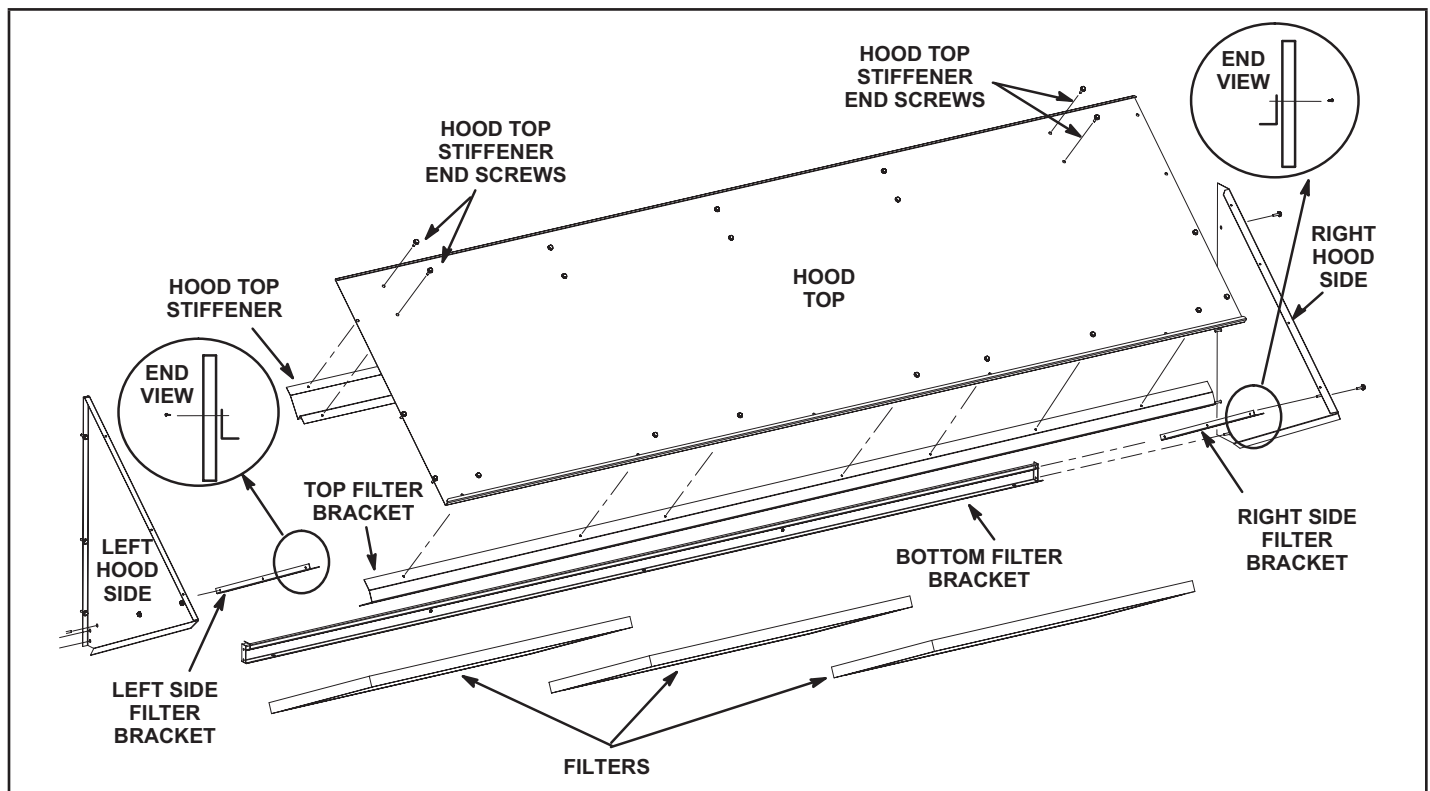
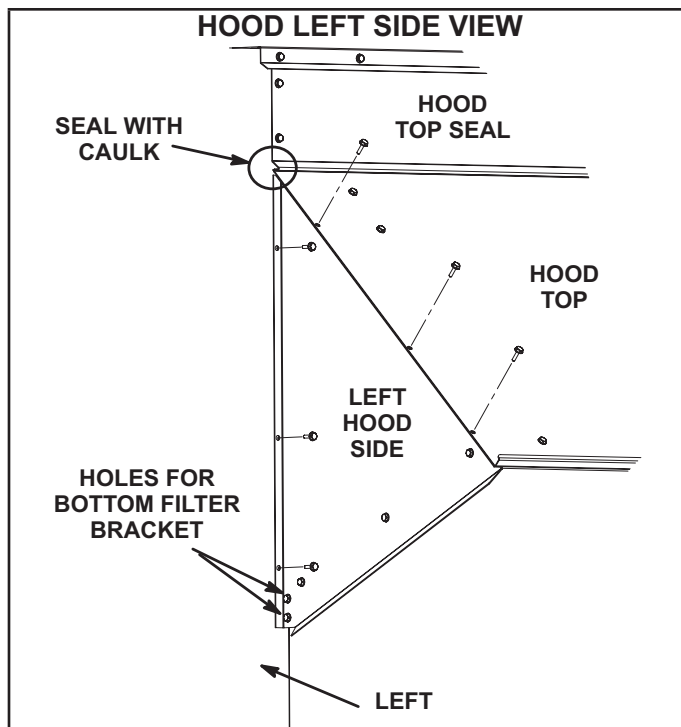
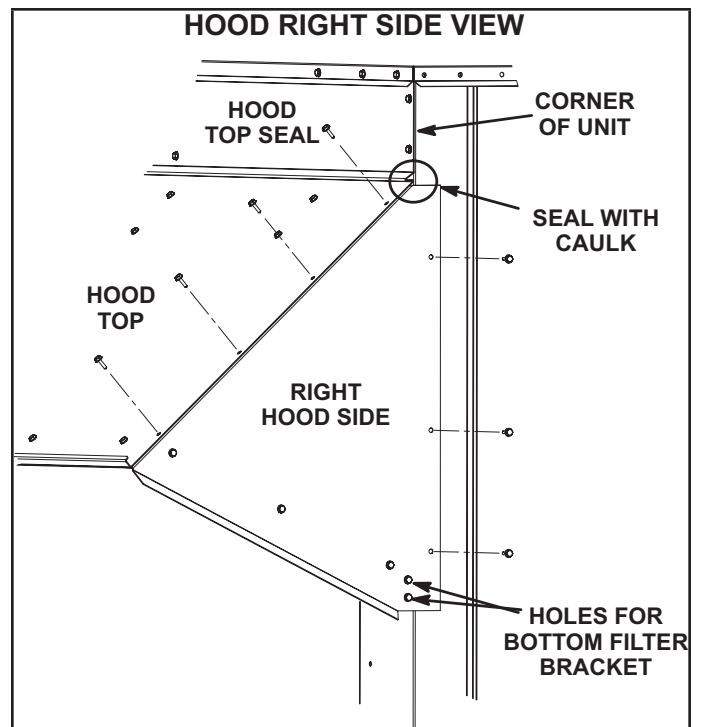

FIGURE 6
FIGURE 7
FIGURE 8
- 5 - Secure hood top stiffener to unpainted side of the hood top with ten screws. See FIGURE 6.
- 8 - Secure the top filter bracket to the hood. See FIGURE 6.
- 9 - Secure the right side filter bracket to the right side of the hood. See FIGURE 6 and FIGURE 8.
- 10 - Secure the right side of the hood to the top side of the hood. See FIGURE 6 and FIGURE 8.
- 11 - Secure the right side of the hood to the unit mullion. See FIGURE 8.
- 12 - Secure the bottom filter bracket to right side of the hood. See FIGURE 8.
- 13 - Secure the center of the bottom filter bracket to the mullion between the exhaust dampers. Drill a hole in the mullion for the screw to engage into (or use self-tapping screw). See FIGURE 6.
- 21 - Install the L-shaped left side filter bracket to the left hood side. See FIGURE 6, FIGURE 7, and FIGURE 12.
- 23 - Caulk (field-provided) both ends of the top seal and hood top as shown in FIGURE 7 and FIGURE 8.